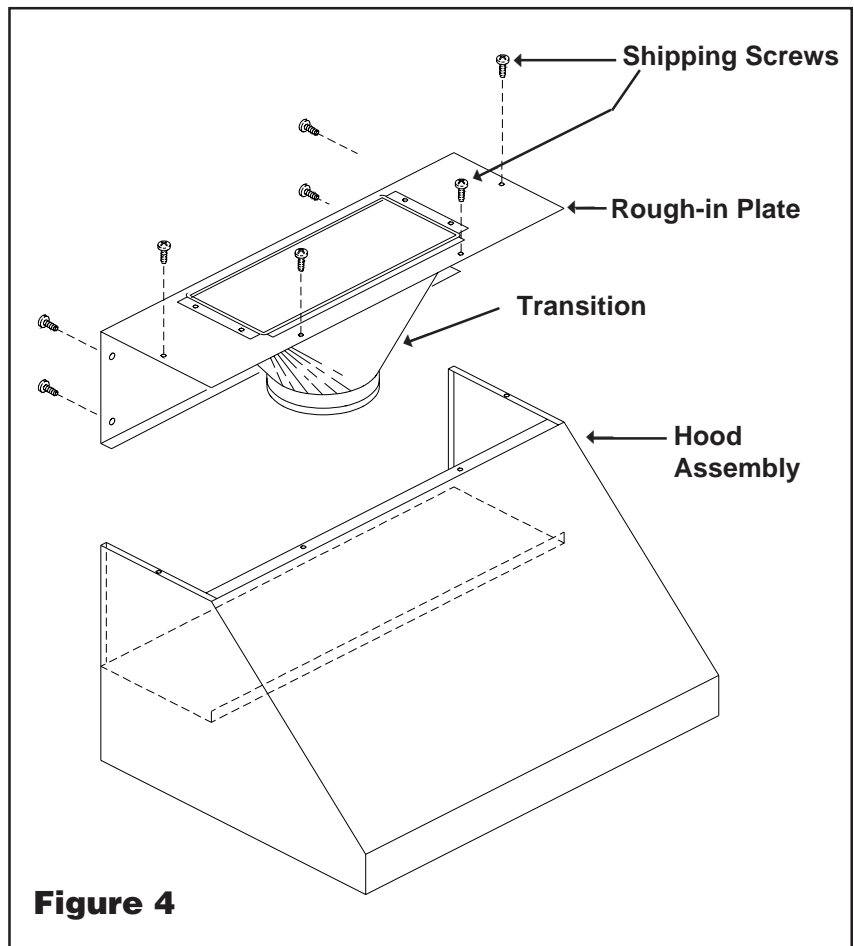
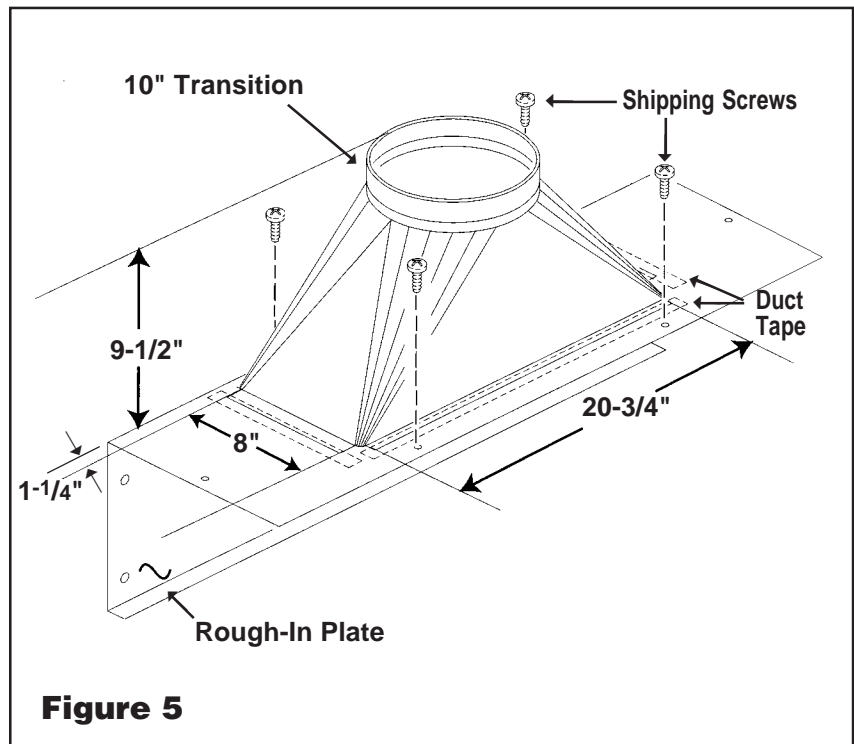

Figure 4
Figure 5
2. To detach the rough-in plate/transition from the hood assembly, remove the four (4) screws on the top and four (4) screws on the back of the assembly as shown in Figure 4.
3. Detach the transition from the rough-in plate by removing four (4) screws. The shipping screws are needed for re-installing the transition to the rough-in plate.
4. Secure transition to top of the rough-in plate, using four (4) screws provided. Use duct tape to seal the joints of the transition and the top of the rough-in plate. See Figure 5.